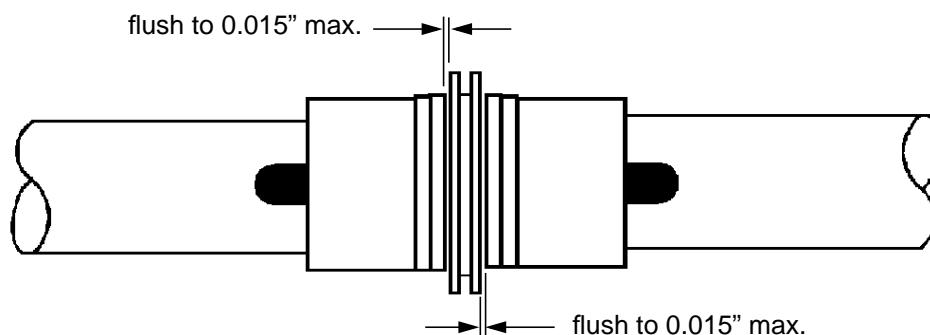

Figure 9 - Ring Position for Completed Swage
- Step 8. Using a feeler gauge, check that the gaps between the outside edges of the swage tool engagement groove and the inside edges of the swage rings do not exceed 0.015" (see Figure 9). If either gap is excessive, reinstall the tool on the applicable side and re-swage until the proper compression is achieved.
- Step 11. Using a feeler gauge, check that the gaps between the outside edges of the swage tool engagement groove and the inside edges of the swage rings do not exceed 0.015" (see Figure 9). If either gap is excessive, reinstall the tool on the applicable side and re-swage until the proper compression is achieved.
- 6.5 Check all swaged Quickfit fittings for the correct degree of swage by measuring the gap between the fitting body and the centre ring (see Figure 9). A gap of less than 0.015" is required.